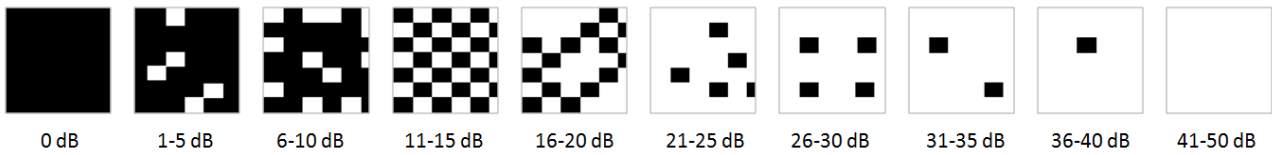

Fig. 59 – Symbols used for the grayscale map and related dB intervals
8. Grayscale VF map (see Fig. 59 for the gray tone symbols adopted), using the Standard Perimetry display convention;